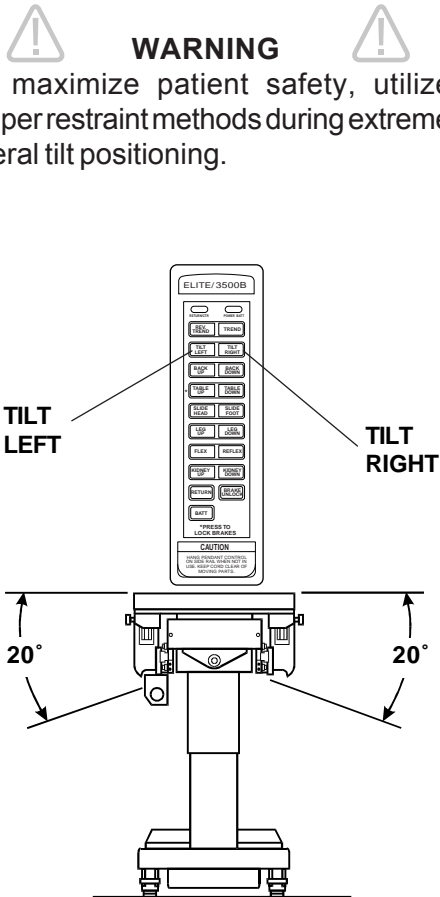

Figure 3-8. Lateral Tilt Positioning
c. Lateral Tilt. To achieve lateral tilt right (as viewed from the head end of the table), press the TILT-RIGHT button (figure 3-8). Tilt of up to 20° may be obtained. To achieve lateral tilt left, press the TILT-LEFT button. Tilt of up to 20° may be obtained.